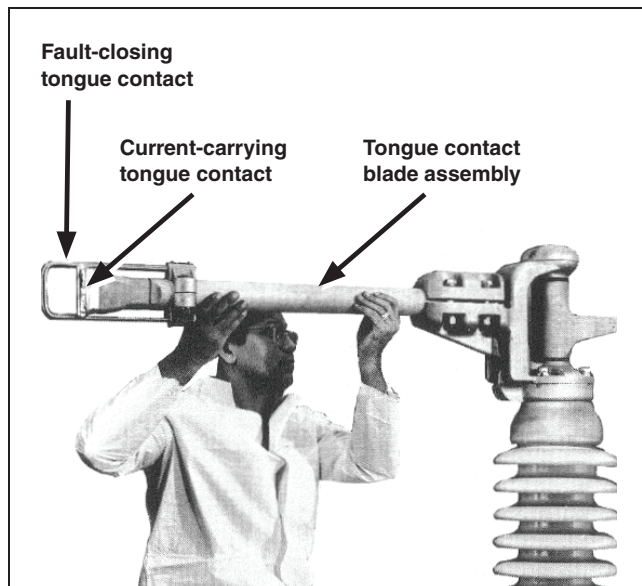

Figure 16. Inserting tongue-contact blade assembly at terminal end (1600 ampere rating shown.)
STEP 18. Open the circuit-switcher pole-unit and insert the tongue-contact blade assembly in the terminal-end blade-hinge assembly. Rotate the blade assembly to position it so the curvature of the fault-closing tongue contact is in the direction of blade travel during closing. See Figure 16 on